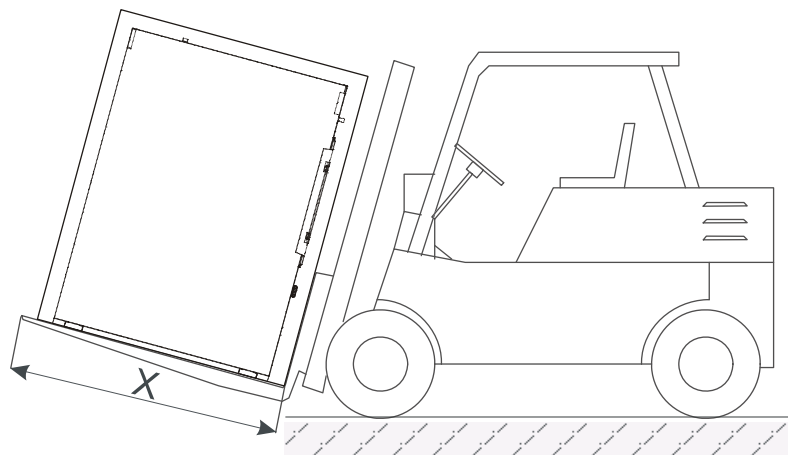

Fig.4.1. Minimum length „X“ of lift truck forks 508931
**FORKS OF HIGH LIFTING TRUCK MUST HAVE SUFFICIENT LENGTH (SEE FIG.4.1).**